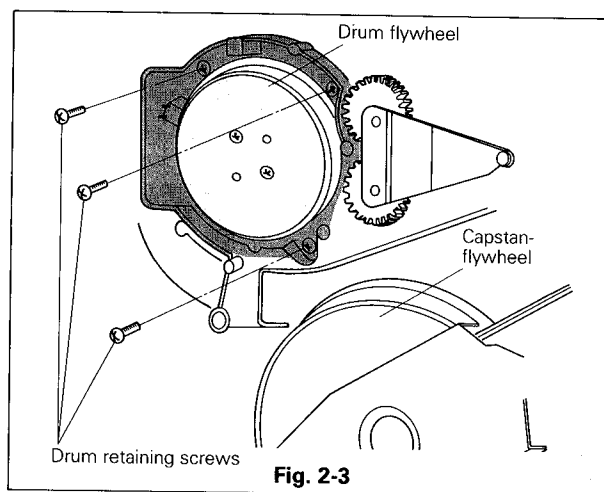

Fig. 2-3
- D. Remove the three drum retaining screws as shown in Fig. 2-3. Holding the upper drum assembly, remove the complete Drum Motor/Video head assembly by gently pulling in an upward direction.
- B. Secure with the three drum retaining screws previously removed, as shown in Fig. 2-3.